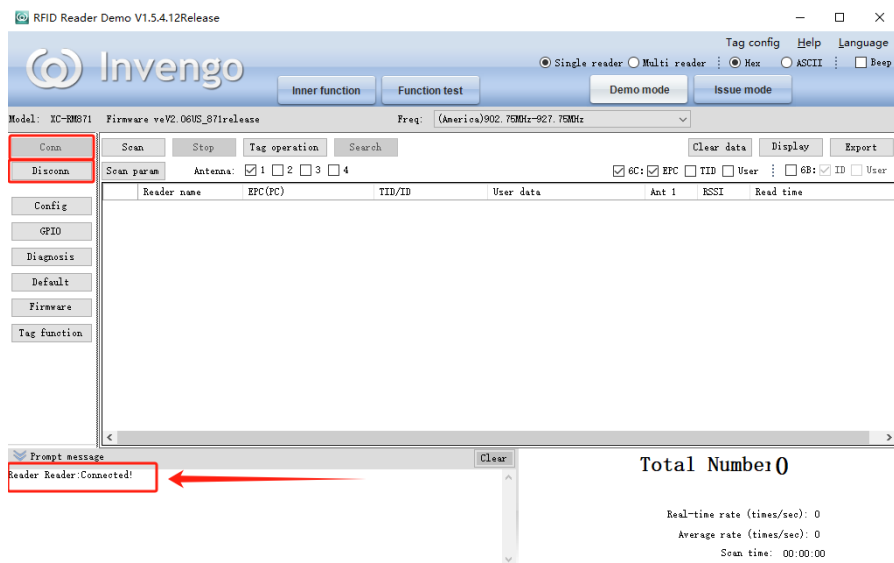

Figure 5-5 Operation Interface
- 3) Enter the interface shown in Figure 5-5. When the information bar displays “Connected”, the connection is successful;
- 4) Click “Disconn” in the interface shown in Figure 5-5 to disconnect the connection.